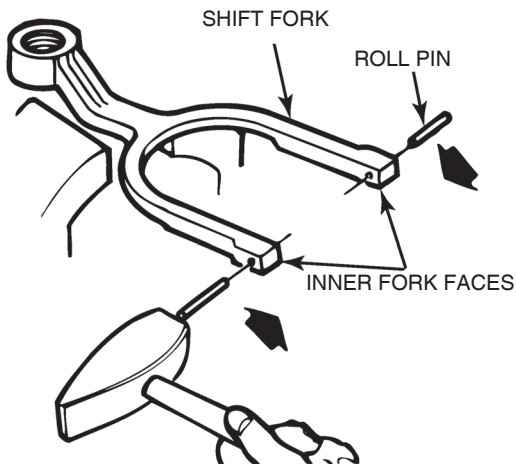

Figure 6.25
1. On differential models with shift fork roll pins, install the two roll pins into the ends of the shift fork. Tap the pins into position until they are level with the inner fork face. Figure 6.25. Do not install completely at this time.